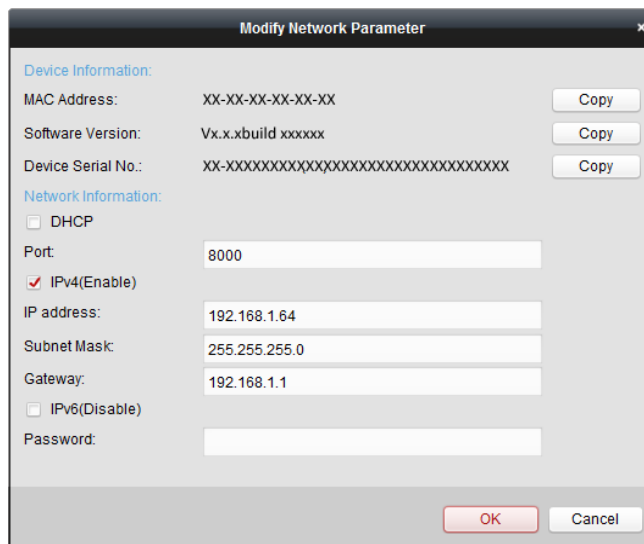

Figure 2-9 Modifying the Network Parameters
7. Click **Modify Netinfo** to pop up the Network Parameter Modification interface, as shown in Figure 2-9.